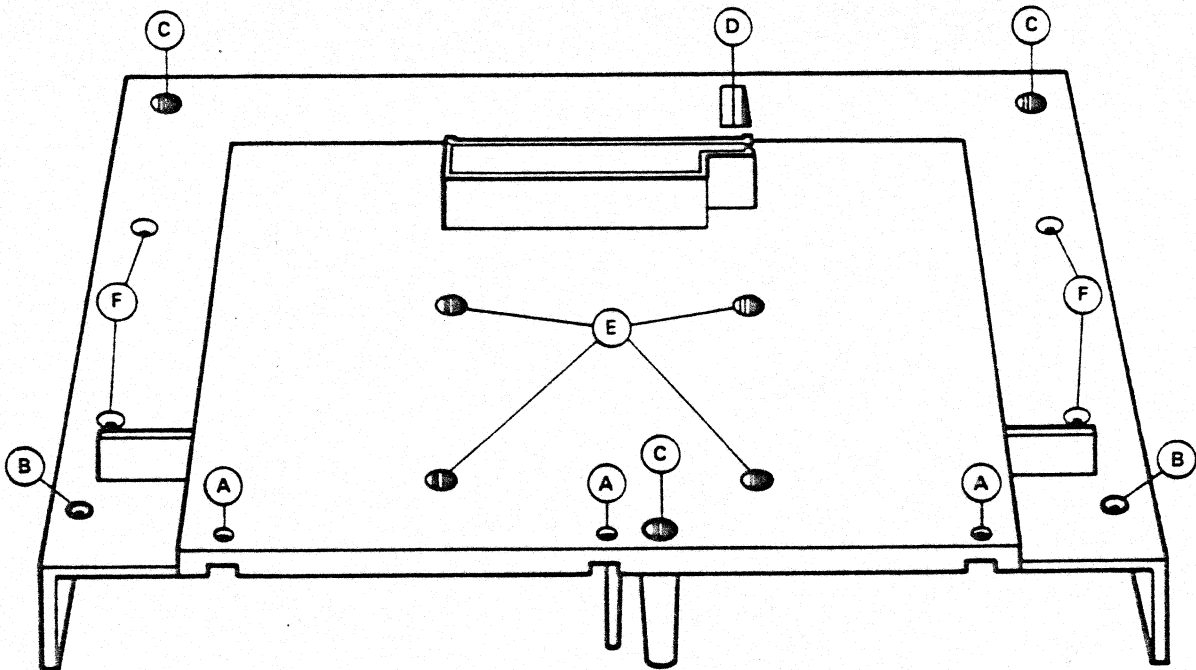

Figure 5-6. Expansion Unit Cover Screws
2. Remove the 6 screws from the bottom of the Expansion Unit as shown in figure 5-6 (screws B, C and D).
3. Install the 6 screws as shown in figure 5-6.
The small machine screw ('D' in figure 5-6) of the Expansion Unit is very important for proper fitting of all covers and the Backplane circuit boards. Do NOT leave this screw out during reassembly.
6. Remove the four machine screws (see figure 5-6, remove two 'E' and two 'F' screws for the particular drive).
2. Start the four machine screws (2 of 'E' and 2 of 'F' in figure 5-6) and tighten them down.